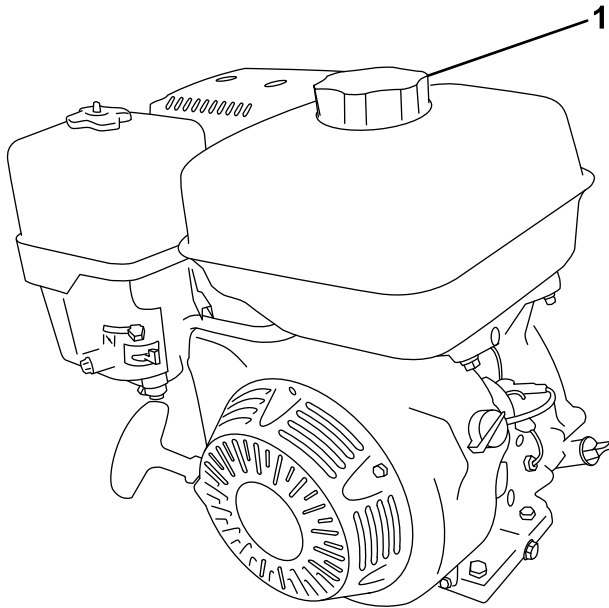

Figure 7
2. Clean around the fuel cap and remove it (Figure 7).
4. Install the fuel cap securely (Figure 7).
2. Move the fuel valve to the OPEN position (Figure 7).
3. Move the choke lever to the CLOSED position (Figure 7).
4. Move the throttle lever to the FAST position (Figure 7).
5. Pull the starter handle lightly until you feel resistance, then pull the handle briskly (Figure 7). Return the starter handle gently.